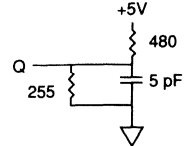

Fig. 2 OUTPUT LOAD EQUIVALENT
6. t_{HZCE}, t_{HZWE} and t_{HZOE} are specified with CL = 5pF as in Fig. 2. Transition is measured ±500mV from steady state voltage.